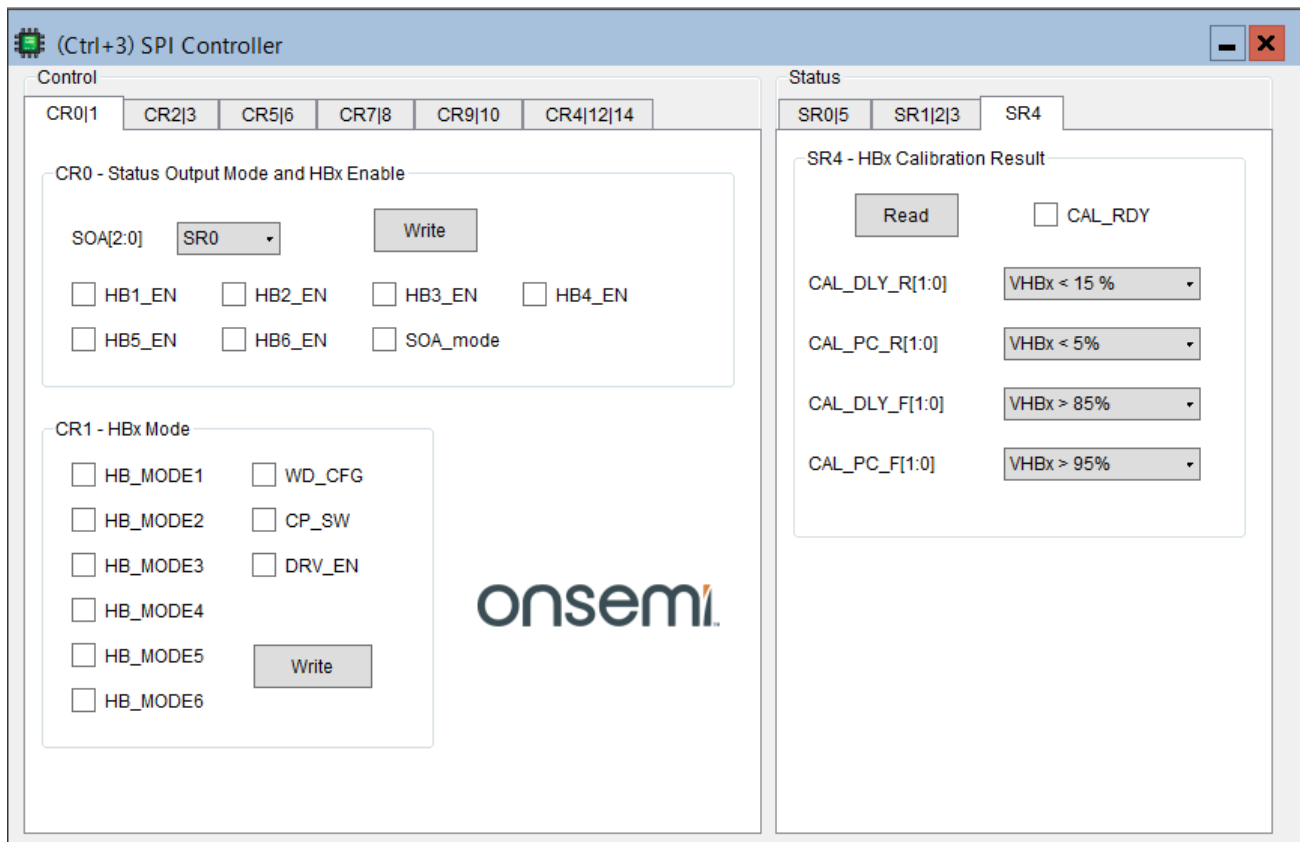

Figure 11. NCV7546 Controller Framework, SPI Controller
14. "SPI Controller" (Figure 11) window provides direct access to all NCV7546 SPI registers.